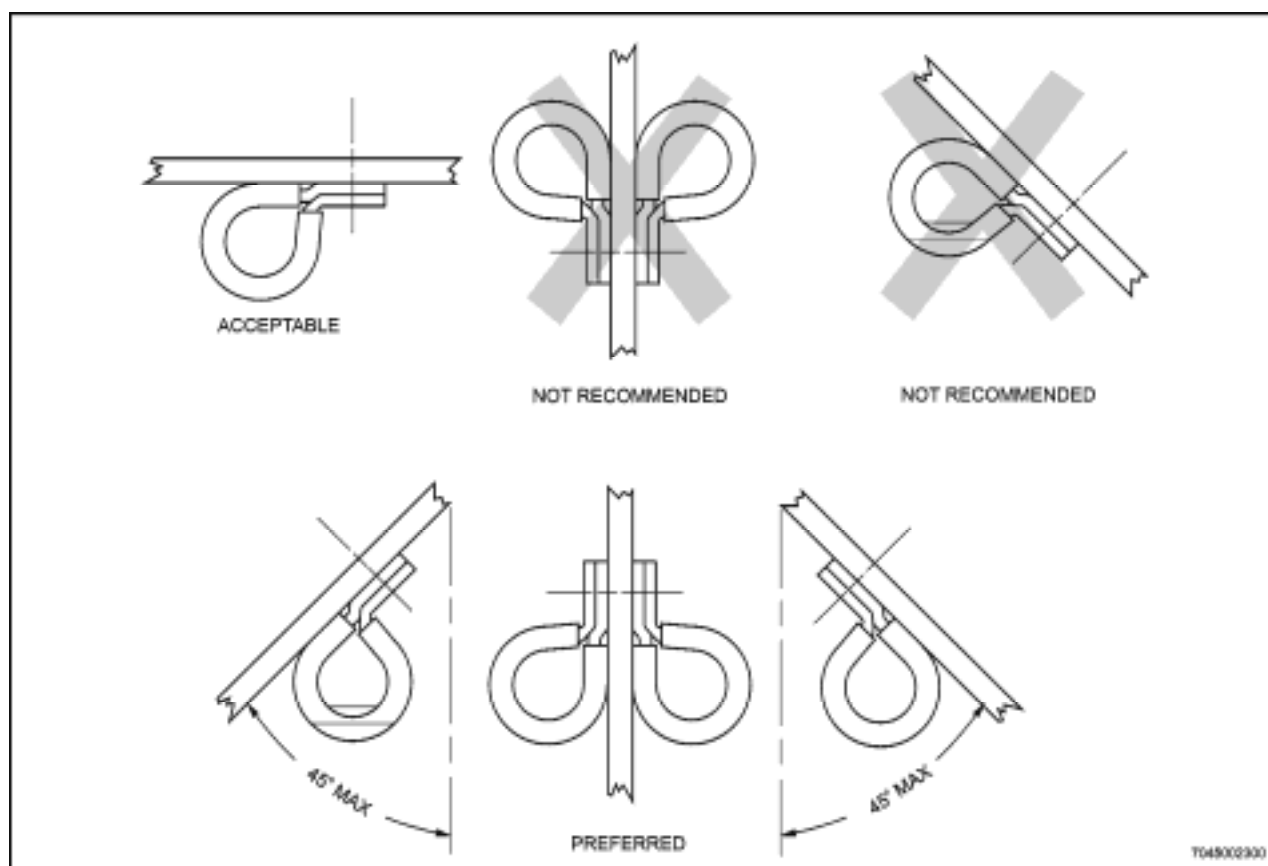
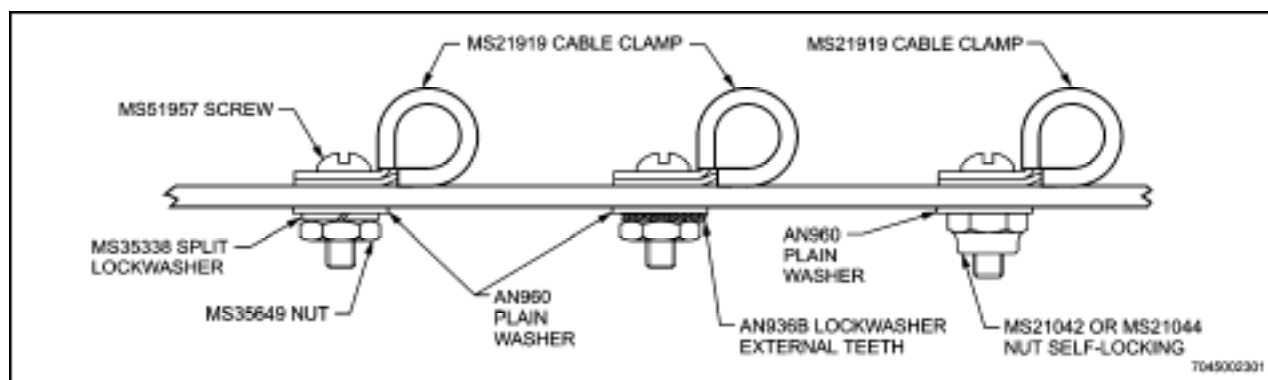

Figure 4-10 Preferred Angle for Cable Clamps
Figure 4-11 Typical Mounting Hardware for MS21919 Cable Clamps
53. Install MS21919 cable clamps as shown in Figure 4-10. The mounting screw should be above the wire bundle, if possible. It is also desirable that the back of the cable clamp rest against a structural member. Use hardware, as shown in Figure 4-11, to mount cable clamps to structure. Be careful not to pinch wires in cable clamp. If the wire bundle is smaller than the nearest clamp size, or if a clamp of the proper size is not available, wrap the wire bundle with the necessary number of turns of insulating tape so that the bundle will be held securely in the clamp. If the clamp can not be installed without pinching and/or crushing the wiring harness, replace the clamp with the next larger clamp size that will securely hold the harness in place.